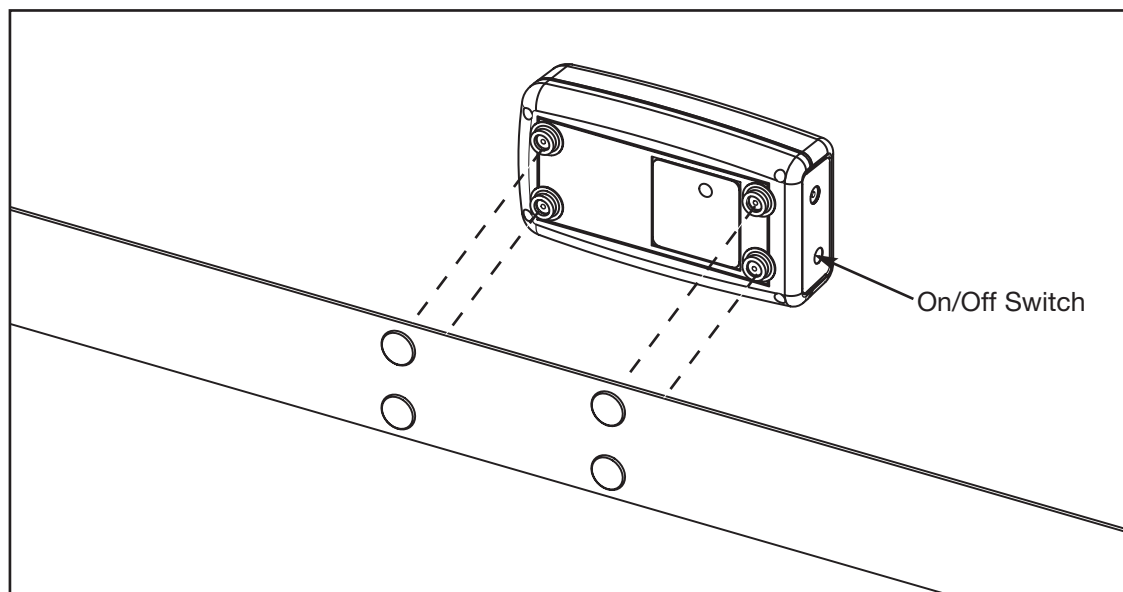

Figure 2
2. Securely place beacon onto belt. **NOTE:** The On/Off switch must be located on the right hand side as shown in Figure 2.